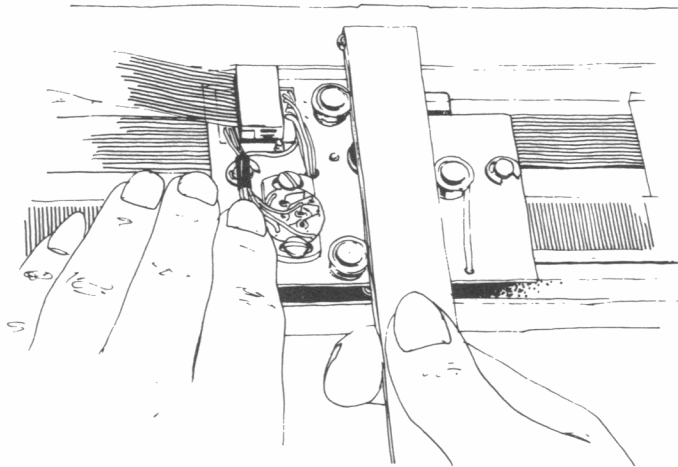

Figure 7
9. Once the Arm Stop has passed Pulley #3, straighten the Arm and push it backwards along the pulley. Be sure that Pulley #3 is in groove on the left side of the Arm. (Figure 7.)